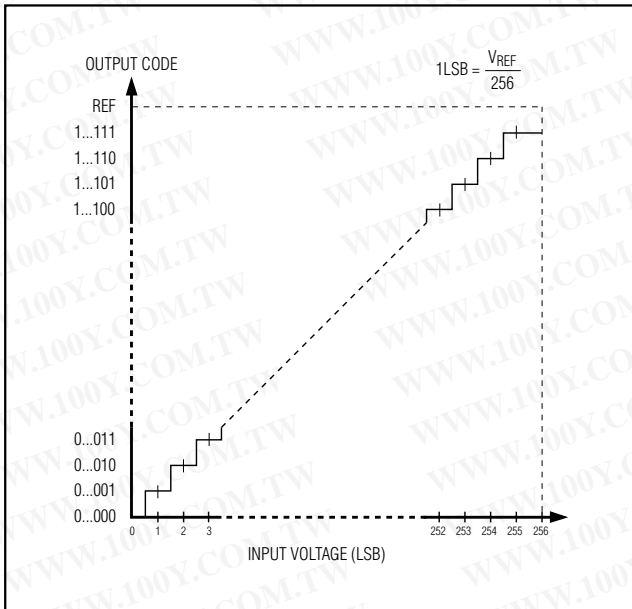

Figure 12. Unipolar Transfer Function
Output data coding for the MAX1036–MAX1039 is binary in unipolar mode and two's complement binary in bipolar mode with 1LSB = (V_{REF}/2^N) where N is the number of bits (8). Code transitions occur halfway between successive-integer LSB values. Figures 12 and 13 show the input/output (I/O) transfer functions for unipolar and bipolar operations, respectively.